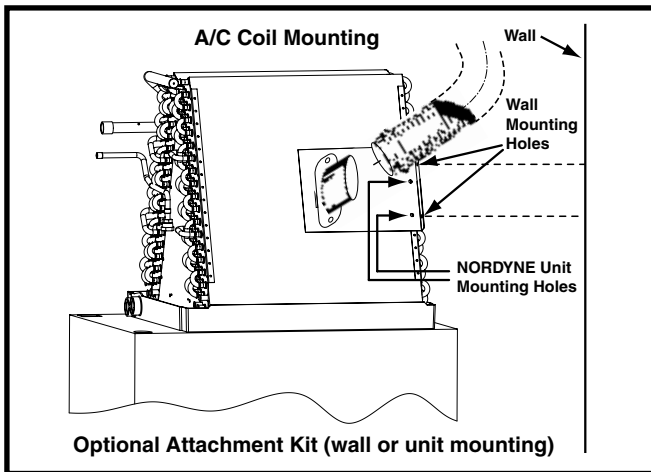

Figure 2. Downflow Electric Furnace with A/C
NOTE: An optional VentilAire™ attachment kit (P/N 919328) may be purchased to attach the plastic inlet fitting to the coil or wall in Heat/Cool and Heat only (no coil) applications. This bulk kit is supplied with 24 brackets and fasteners. The plastic inlet fitting snaps into the bracket opening without screws. See Figure 2.
- **Electric Furnace with Nortek A/C coil** - Align and fasten the VentilAire™ attachment bracket with the holes in the coil end-plate flange. See Figure 2.
- **Electric Furnace with non-Nortek A/C coil** - When using other brands of coils, the installer has the option to attach the bracket to the wall of the furnace cavity. Fastening must penetrate into a framing member or sheetrock anchors. See Figure 2.